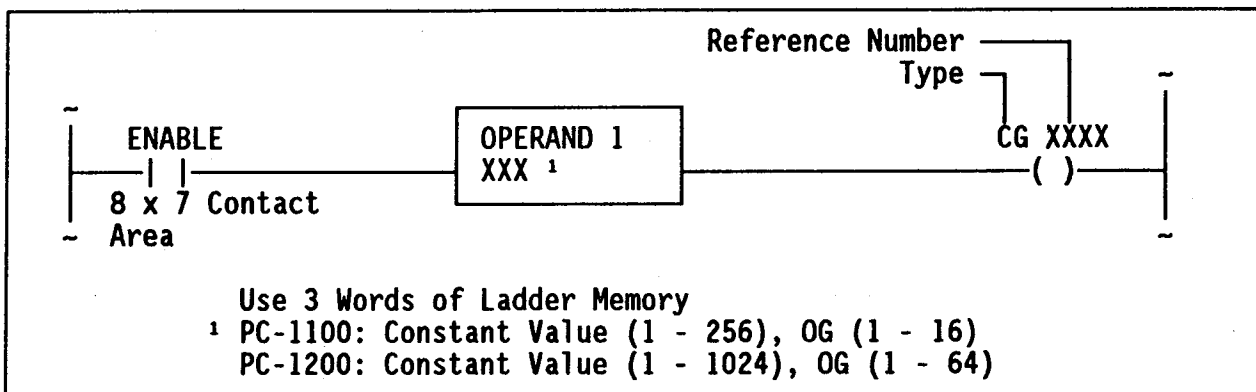

Figure 1. Continuous Group Select (CG)
The Continuous Group Select (CG) function allows the user to change a transitional functional, or group of transitional functions to continuous operation. When the ENABLE contact closes, the specified coil or output group in the operand operates on every scan if enabled. CG function symbology is shown in Figure 1.